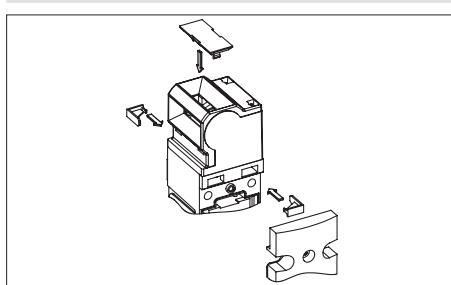

Fig. 2: Fitting locking pins, closing actuating slot
- Optionally: Fit the supplied locking pins for protection against twisting (see Fig. 2).
- Cover the unused actuating slot with the enclosed slot cover (see Fig. 2).